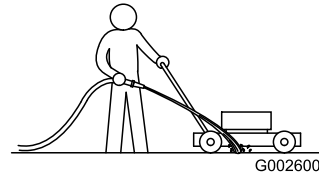

Figure 29
3. With the engine running and the blade engaged, spray a stream of water in front of the **right**, rear wheel (Figure 29).